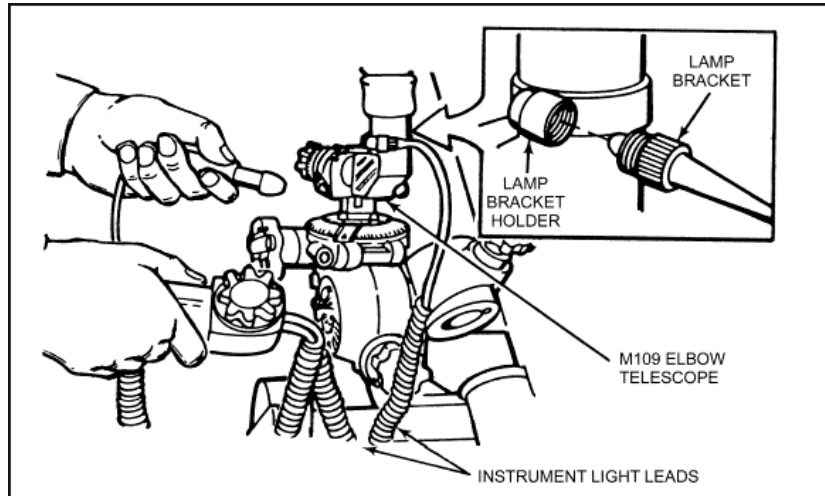

Figure 2-22. Installation of instrument light.
c. To place the instrument light into operation (Figure 2-22), the cap is pressed inward at the end of the battery case and turned counterclockwise until free. Two BA-30 batteries are inserted terminal ends first. The cap is installed by turning clockwise until finger tight. Install the battery case of the light in the carrying case with the rheostat knob accessible. The carrying case is positioned so the lead wires reach the sightunit. The dust cover is removed from the lamp bracket holder of the M109 elbow telescope, and the protective cap is removed from the end of the light assembly lead. The end of the light assembly is threaded into the socket on the elbow telescope for illuminating the telescope reticle. The hand light is retained in the case until required for use. **DO NOT ATTEMPT TO USE THE M53 LIGHT ON THE LIGHT PROJECTOR OF THE M53 SIGHT.**